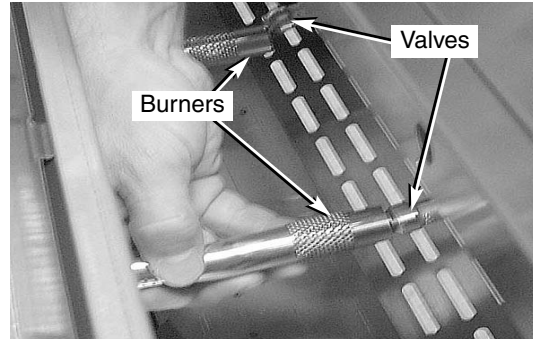

Fig 16
22. Reinstall burners into the grill body. Line up the burners with the valves on the manifold, making sure they are level. Make sure the burners are fully over the valves (Fig. 16).